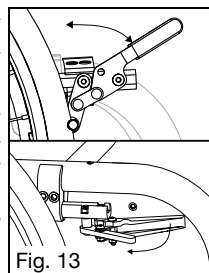

Fig. 13
5. Always test new wheel lock positioning on a flat level surface. Once wheel locks are engaged, the wheels should not slip or move. If the wheel locks are not fitted properly readjust wheel lock again. See Fig. 13.